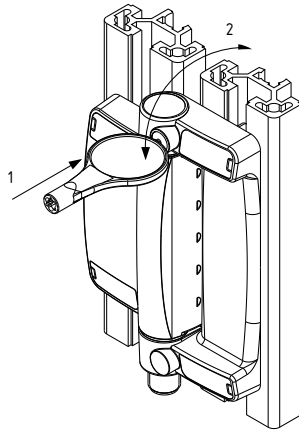

Fig. 7
4. After the switching angle has been set and checked, the blanking plug for the adjustment opening located at the rear of the adjustment tool must be inserted in the adjustment opening (1) and torn down by making lateral movements (2) with the tool (Fig. 7).